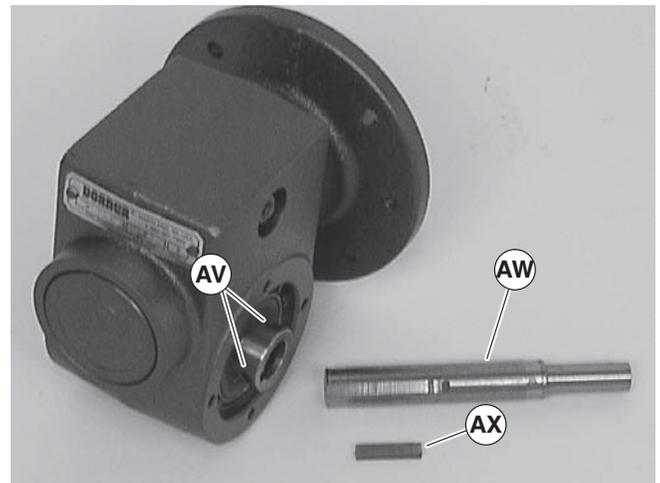

Figure 29
- Remove two (2) screws (AS) and detach output shaft cover (AT).
- Remove gear reducer output shaft key (AU).
- Loosen six (6) set screws (Figure 29, item AV). Remove drive shaft (AW) and key (AX).
13. Replace the original shaft components into new gear reducer (see Figure 29). Tighten set screws (AV) to 26 in-lb (3 Nm).